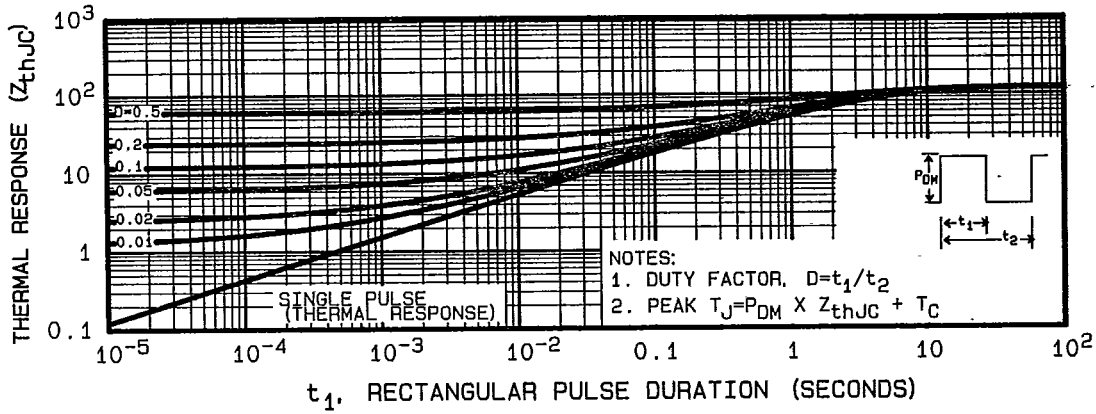

Fig. 5 — Maximum Effective Transient Thermal Impedance, Junction-to-Case Vs. Pulse Duration
- ①  $T_J = 25^\circ\text{C}$  to  $150^\circ\text{C}$
- ② Repetitive Rating: Pulse width limited by max. junction temperature. See Transient Thermal Impedance Curve (Fig. 5).
- ③ @  $V_{dd} = -25\text{V}, T_J = 25^\circ\text{C}$